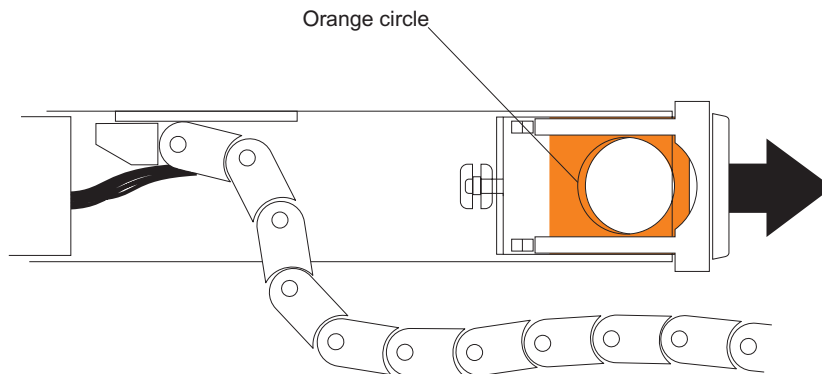

Figure 95. Horizontal mounting bracket that connects to the drive drawer
- b. Disconnect the right cable chain mounting bracket from the drive drawer. Hold the orange handle (See Figure 95), and pull the mounting bracket out of the drive enclosure.